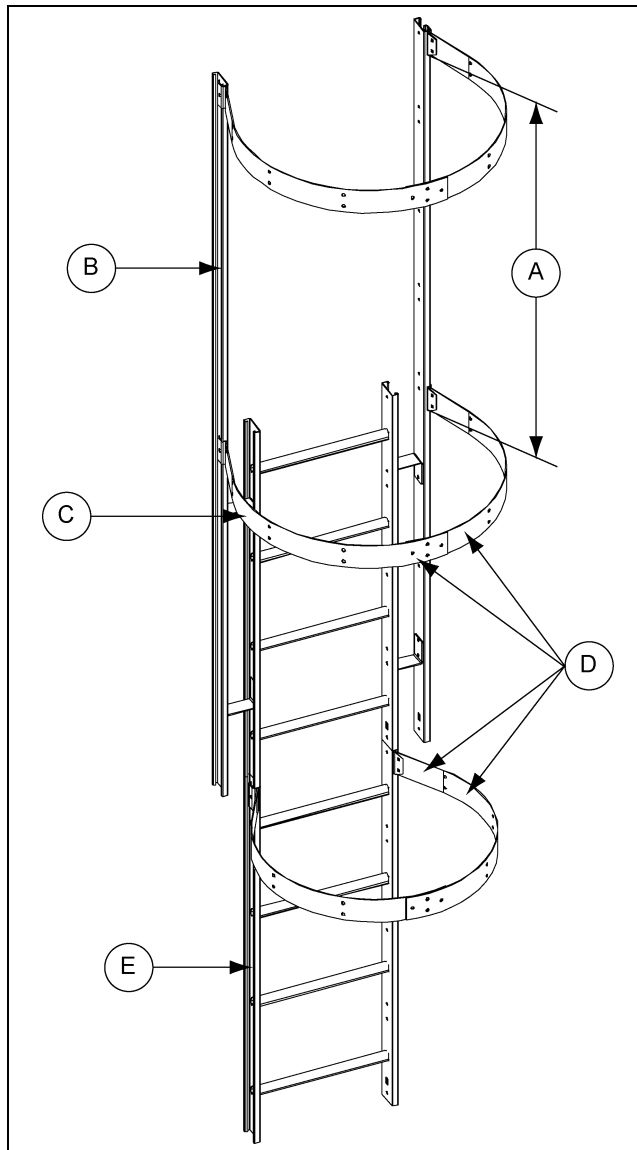

Figure 10C
To complete the safety cage hoop installation, some pre-assembly is required. Attach four (4) safety cage brackets to the extension rails and two (2) safety cage brackets to the second 4' ladder section as shown in Figure 10C. See cage hoop bracket detail on Page 53 for proper installation. Next, bolt each set of safety cage hoop halves together using 5/16" x 3/4" bolts with the head of the bolt to the inside of the safety cage. You may now bolt these assemblies to the safety cage brackets. Tighten bolts as you go.